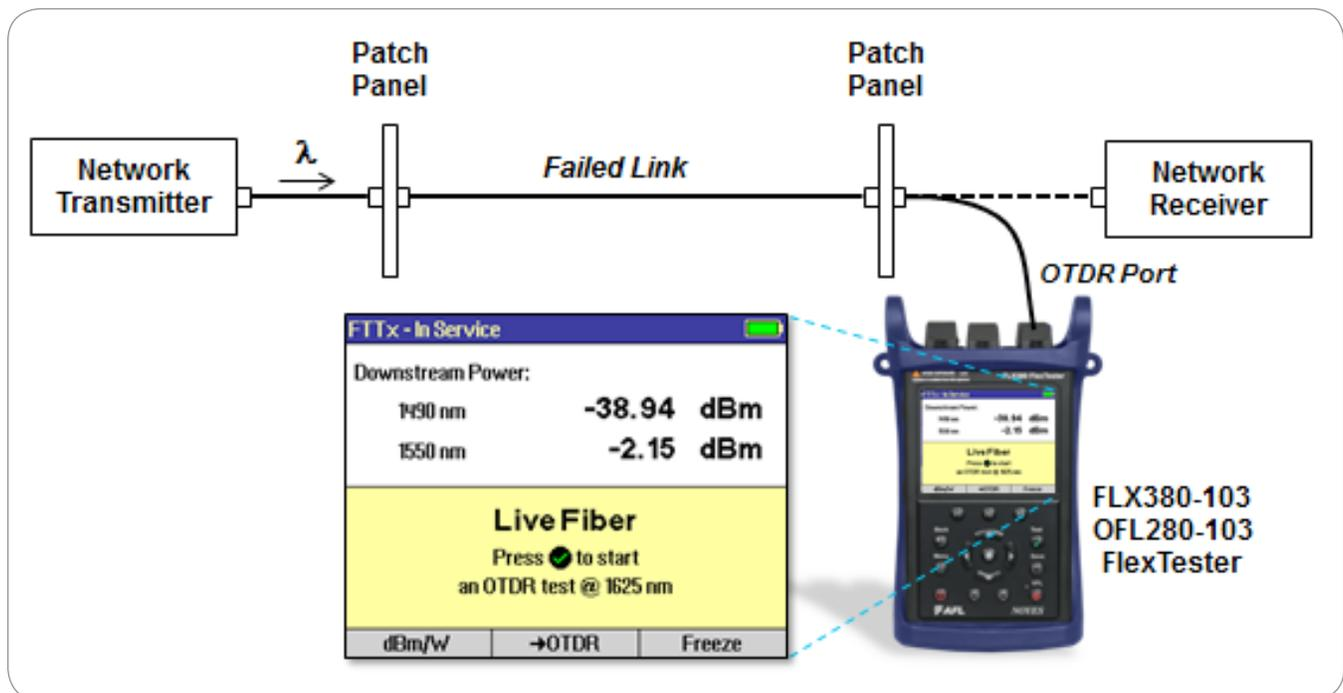

Figure 5: "Live Fiber" detected and displayed when OTDR test initiated on active fiber.
9. If the wavelength of the downstream signal is 1490 and/or 1550 nm, the FlexTester will display the Live fiber screen, measure and display the received 1490 and 1550 nm signal levels, and prompt to press "Test" again to initiate a test (see Figure 5). If the received power level at both wavelengths is below -3 dBm, press test to initiate the OTDR test using the filtered 1625 nm Live PON OTDR.